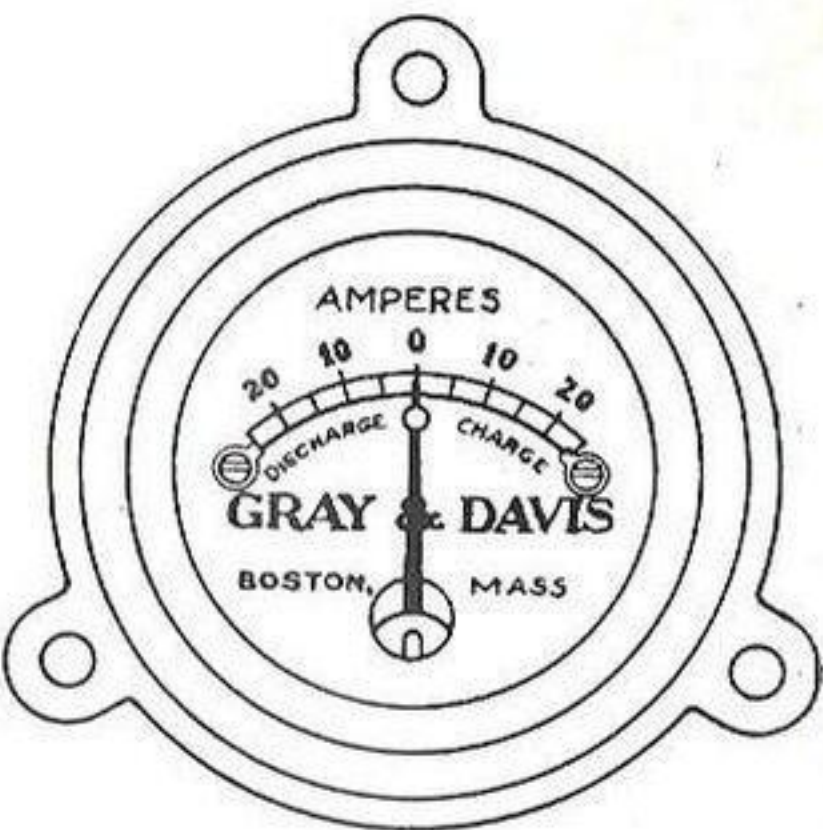

Figure No. 7
- The ammeter, an electrical measuring instrument (Fig. No. 7) indicates when the dynamo charges battery, and at what rate. It also indicates the rate of discharge from battery to lamps. It shows whether or not the system is working properly. When battery is neither charging nor discharging, the pointer should indicate "O."